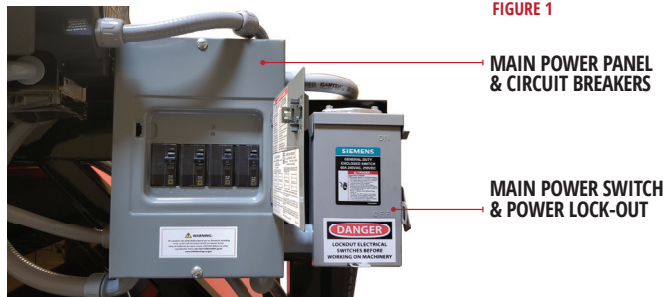

FIGURE 1
- The two fixed speed conveyors for flower and stem/shoot extraction are powered by a single 15amp circuit breaker on the main power panel, shown in **figure 1**. When power is applied and this circuit breaker is on, the fixed speed conveyors will start automatically and run continuously for as long as the main power switch is engaged. Unplugging the machine, turning off the main power switch (power lockout) or turning off the 15amp circuit breaker will shut off the fixed-speed conveyors. Note: the 15amp circuit breaker is for overload/emergency protection only and should not be used as an “on/off” switch for the fixed speed conveyors.
1. Lock out the main power switch and unplug the machine from the power source. **(Figure 1)**